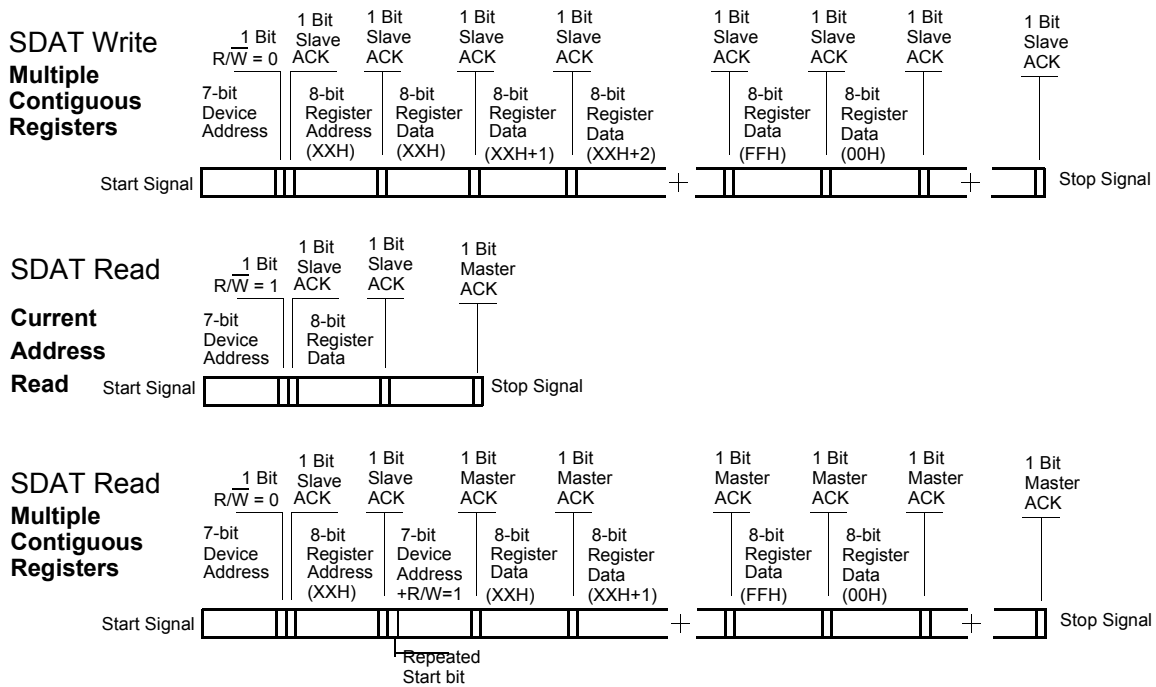

Figure 2. Data Frame Architecture
Start Bit; 7-bit Device Address (DA); $\overline{R/W}$ Bit; Slave Clock Acknowledge (ACK); 8-bit Memory Address (MA); ACK; 8-bit Data; ACK; 8-bit Data in MA+1 if desired; ACK; 8-bit Data in MA+2; ACK; etc. until STOP Bit. The basic serial format is illustrated in *Figure 2*.